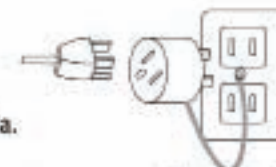

Figure 2
Before using this floor machine, make sure a properly grounded 3-hole electrical outlet is available. If not, as in some older facilities, use an adaptor for connecting a 3-prong plug to a 2-prong receptacle (Figure 2) and ground to the outlet chassis.
**Never assume that an adaptor connection (as in Figure 2) is properly grounded.** Check the outlet with a **ground fault interrupter device** which quickly indicates if a ground is connected. Correct a faulty grounding before proceeding.